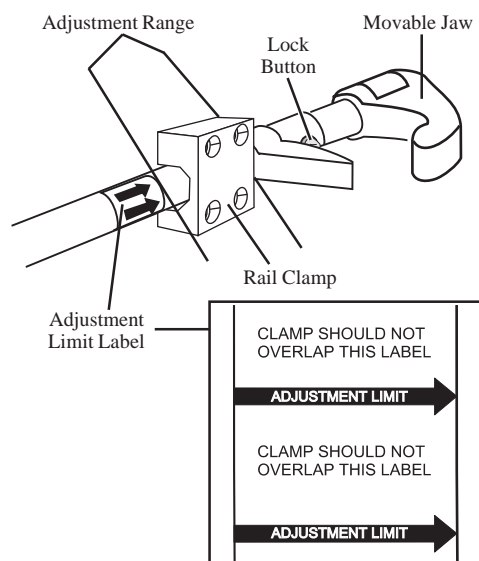

Figure 27 - Adjusting the Rail and Rail Clamp
1. Adjust the rail clamp so it does not touch the adjustment limit label (Figure 27).
- Adjust the clamp side-to-side within the adjustment range indicated by the adjustment limit label (Figure 27). Do not exceed the adjustment range between the jaw and label.